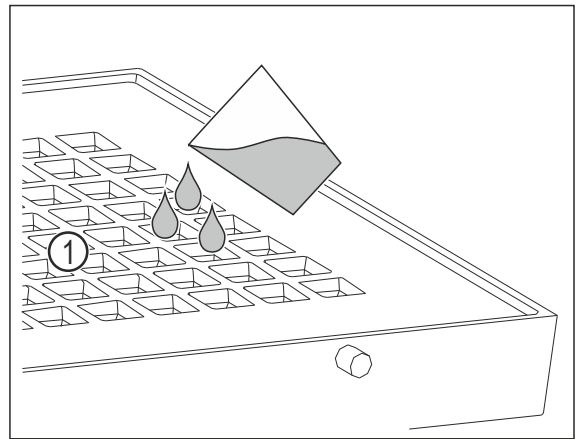

Fig. 103
- ▶ Fill with a maximum of 400 ml of water through the holes *Fig. 103 (1)* in the cover.